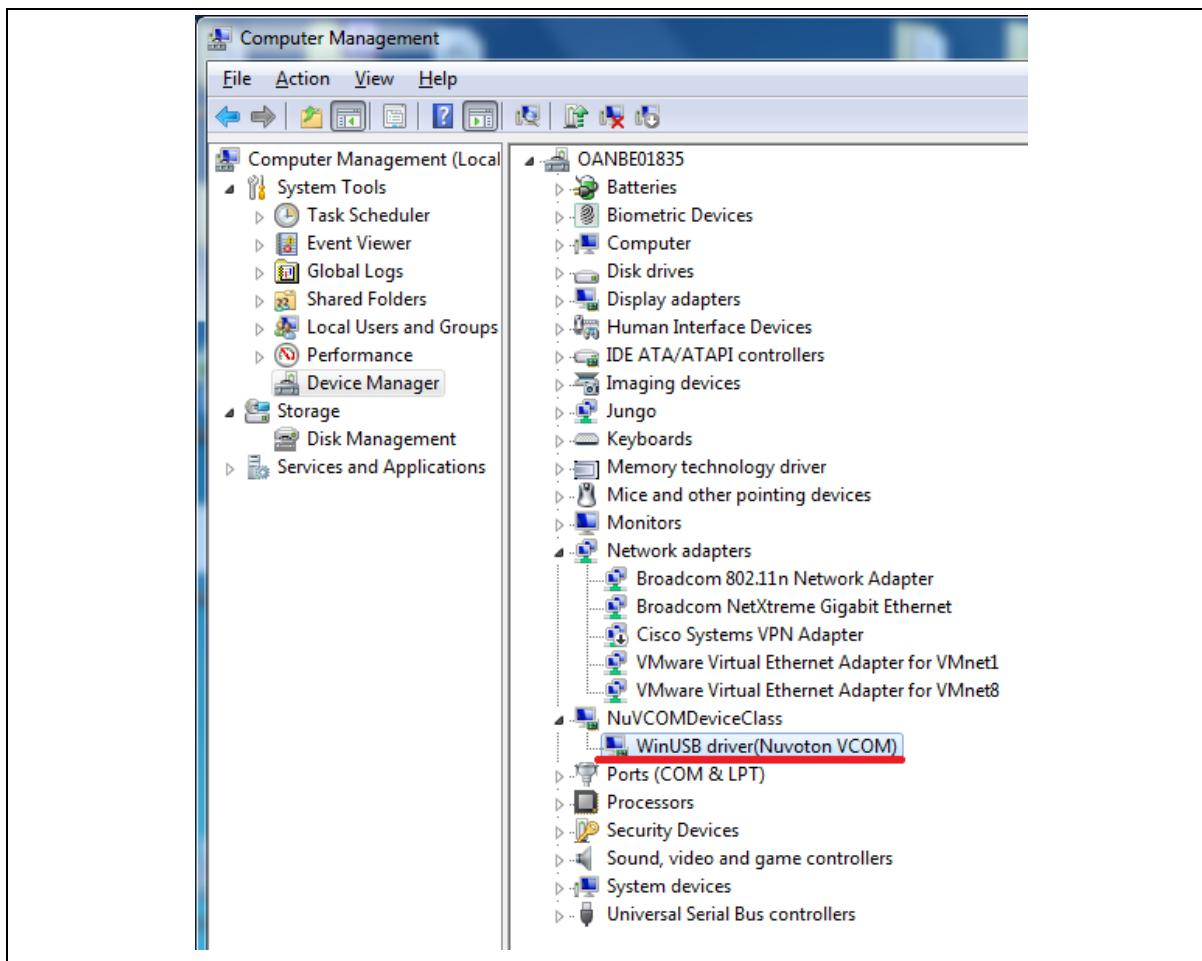

Figure 5-11 Device Manger(2)
4. Find the “WinUSB driver (Nuvoton VCOM)” on the Device Manger as Figure 5-11.